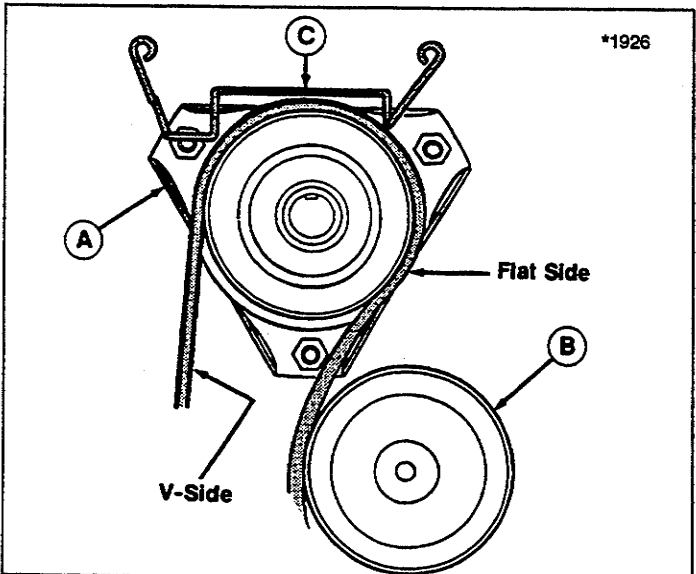

Figure 42. Belt Pulleys
6. Remove belt from PTO pulley. See figure 42. Hardware securing belt stops may have to be loosened in order to remove belt.
8. See figure 42. Make sure mower belt goes underneath rider, and **over the drive axle**. Install belt around bottom pulley of PTO.
9. See figure 42. Install anti-spin rod to PTO. Insert other end through frame and secure with spring clip.